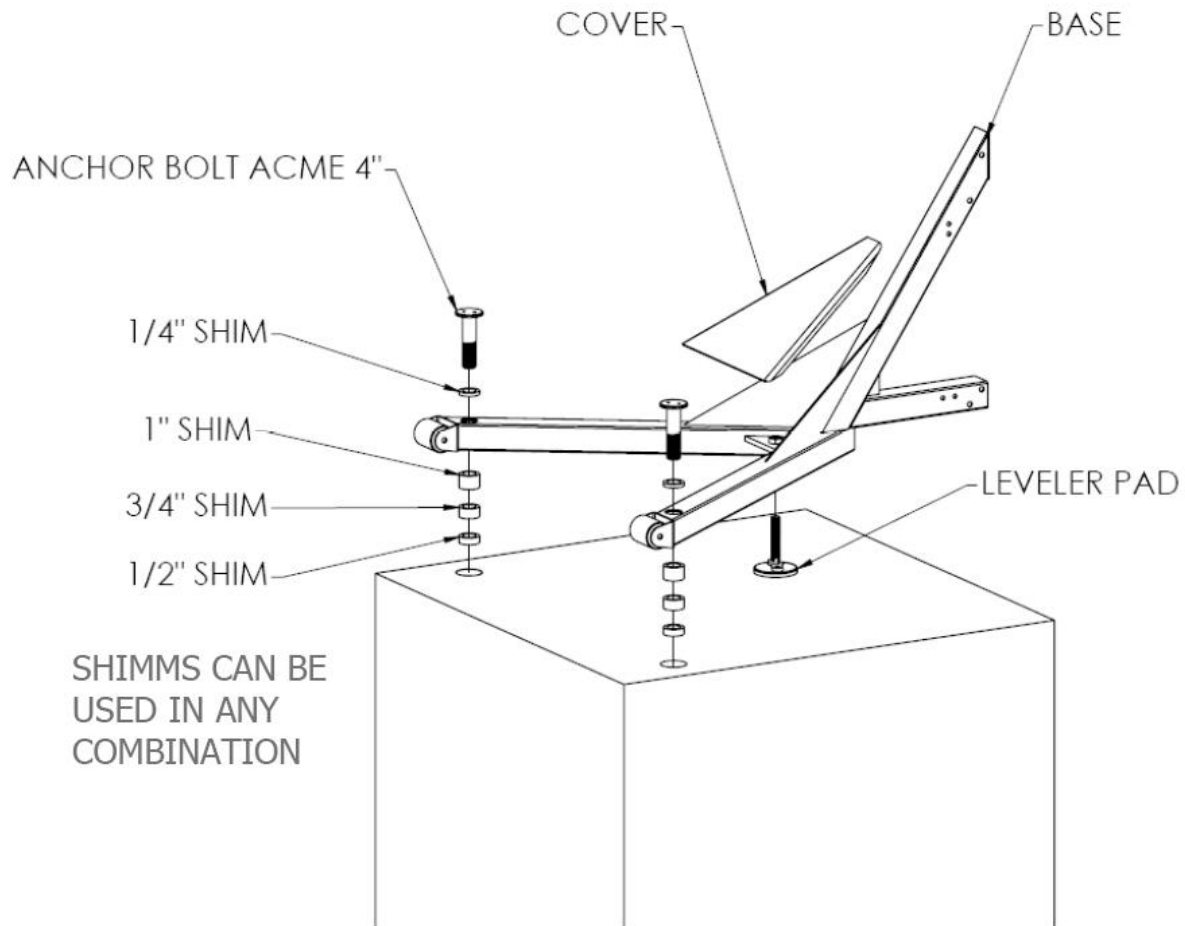

Figure 5
5. Bolt the lift to the anchors in the deck using two 1" diameter by 4" length acme bolts as shown in figure 5. **Do not completely tighten the 1" diameter acme bolts at this time.**
9. Level the lift front to back, if necessary, by using donut shims between the base stand and each anchor, and adjusting the Leveler Pad by screwing the Pad in or out. The donut shims can be used individually or in combination to level the lift. The donut shims can be used above the anchor base or below as shown in figure 5 to prevent the acme bolts from bottoming out in the anchors.
11. Install Cover on lift as shown in figure 5.